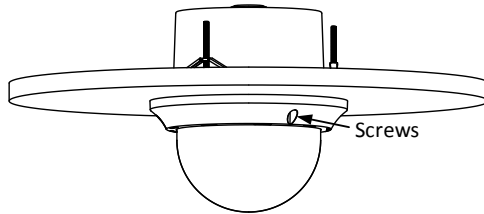

Figure 1-37 Install the Lower Dome
7. Secure the lower dome to the back box with three screws as shown in Figure 1-37.